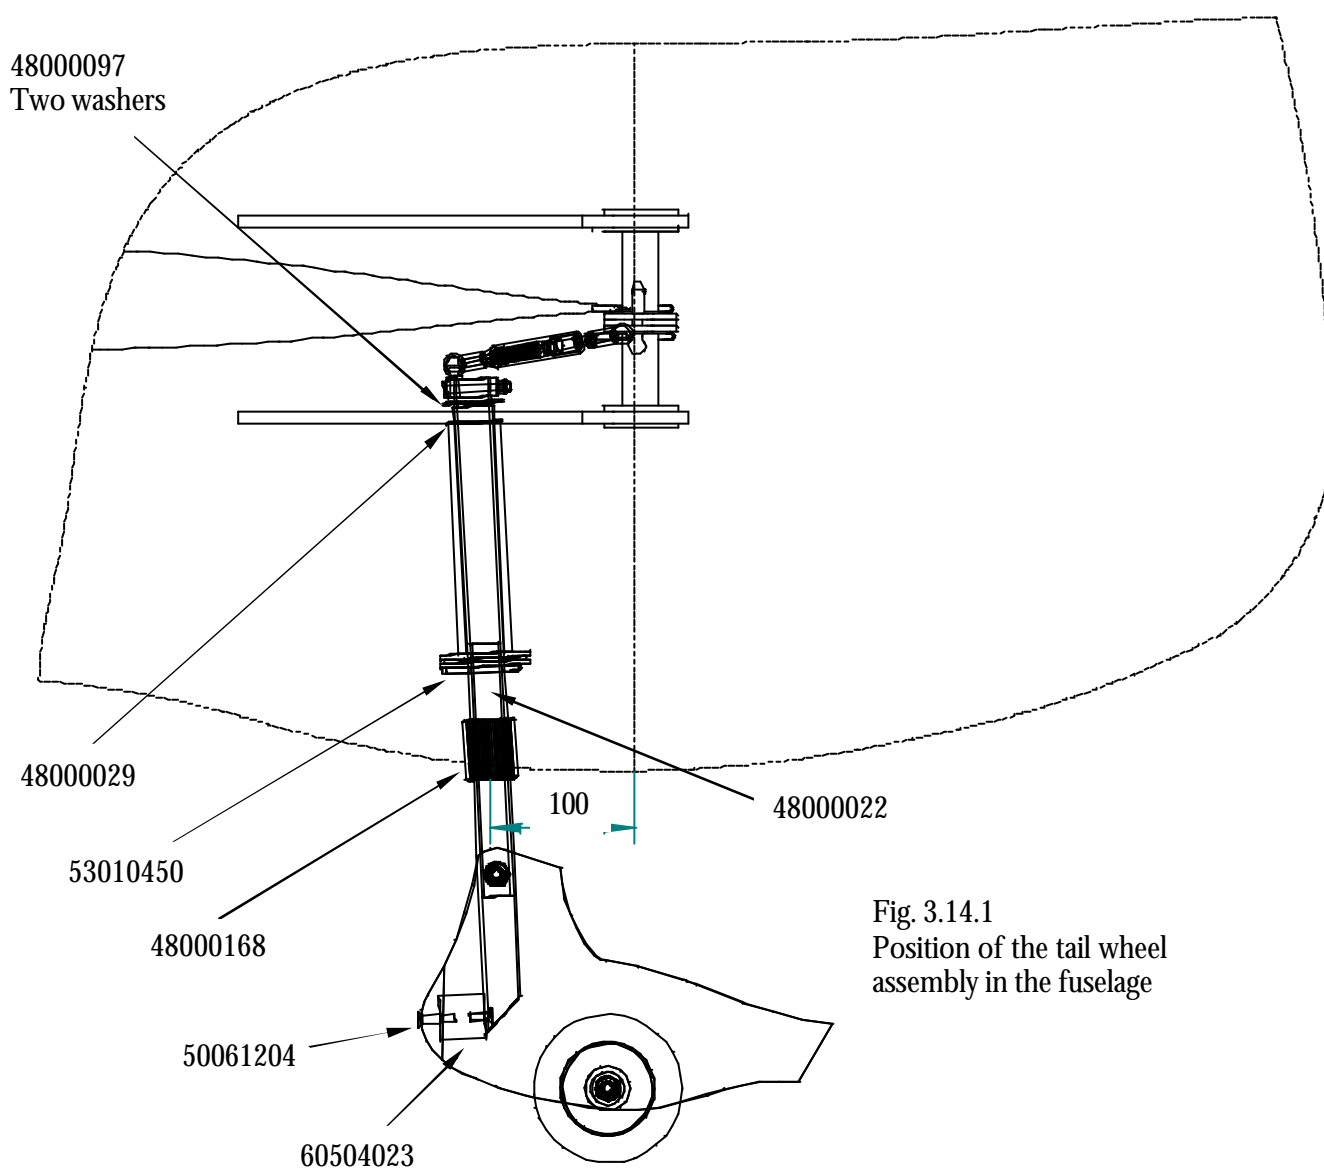

Fig. 3.14.1
1. Drill a hole through the bottom radius of the fuselage at a distance of 100mm (3.94") from the trailing edge (see figure 3.14.1) to fit bushing no. 48000168 (outside diameter 35mm [1.38"]).
2. Insert plastic bearing no. 48000029 into the 26mm (1.02") bore in the carbon fiber rib of the rudder support (see fig. 3.14.1).